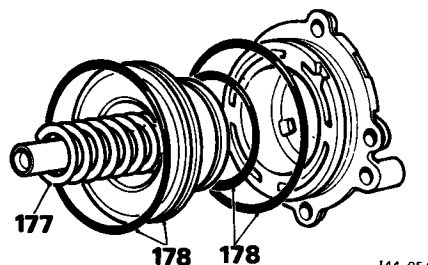

Fig. 53
- 177. Remove the piston return spring (Fig. 53).
- 178. Withdraw the piston from the servo body; remove and discard the 'O' rings (Fig. 53).